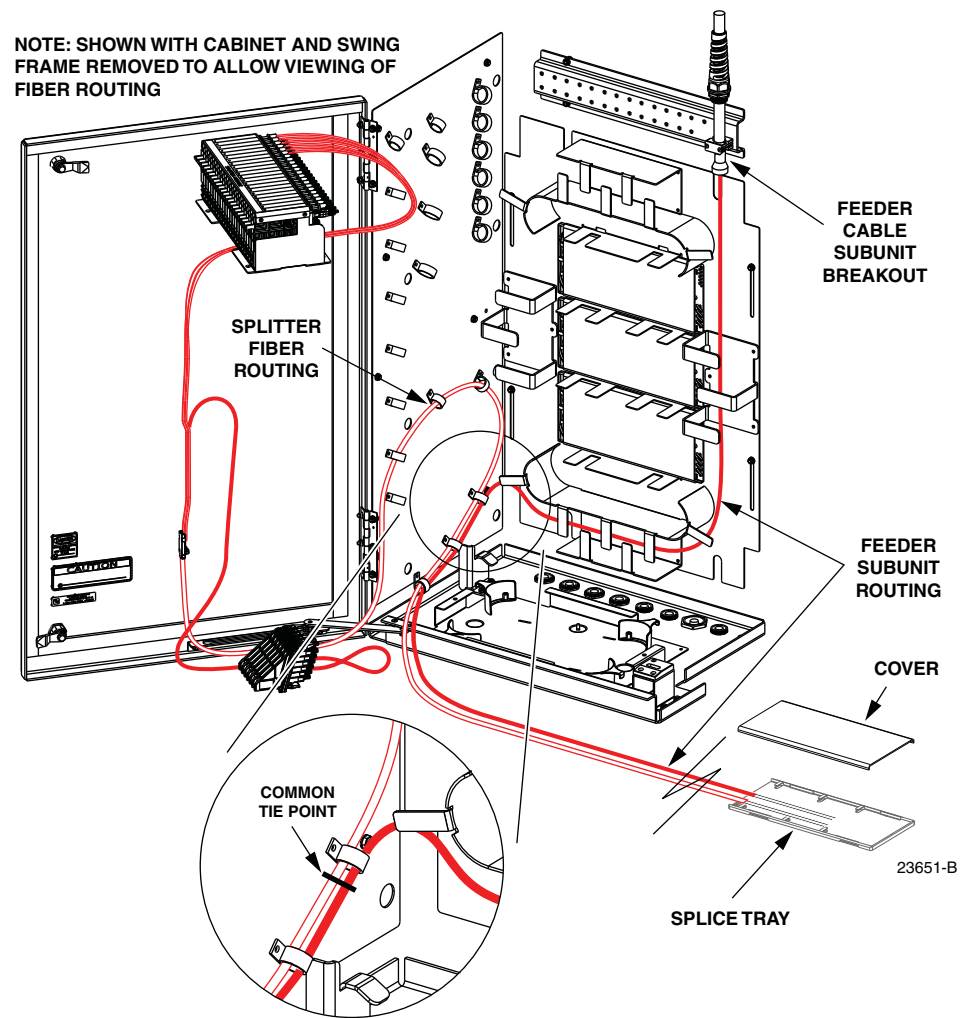

Figure 27. Feeder Fiber Routing To Splice Tray - Stranded Cable
4. Beginning at the feeder cable subunit breakout point shown in Figure 27, route the feeder cable fibers to the intersect point with the splitter fibers.